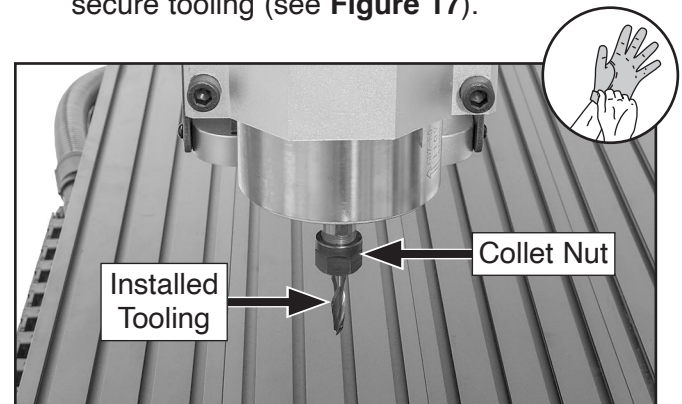

Figure 17. Tooling installed in spindle motor.
4. Insert collet in spindle and tighten collet nut to secure tooling (see **Figure 17**).